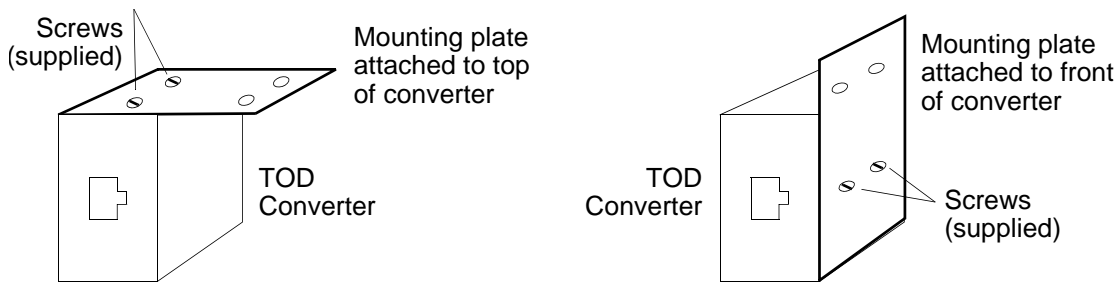

Figure 3-24. RS-422-to-RS-232 TOD Converter Mounting Plate
1.	<p>Secure the provided mounting plate to the RS-422-to-RS-232 TOD converter, using the two provided screws. The plate may be attached to the top or front of the converter, depending on the desired surface (for example, a rack or cabinet) to which the converter will be mounted (see Figure 3-24).</p> <p>Notes:</p> <ol style="list-style-type: none"> 1. Due to distance constraints, the converter must be placed no more than 305 m from the TimeSource 3600 Shelf, and no more than 15 m from the device receiving the time code. 2. The converter dimensions are 7.5 cm by 3.8 cm by 2.5 cm. 3. The mounting plate dimensions are 7.5 cm by 5 cm.